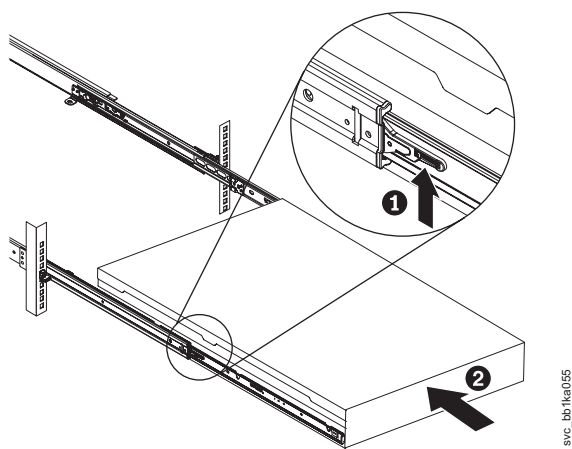

Figure 106. Raising the SAN Volume Controller 2145-CF8 or 2145-CG8 locking levers of the slide rails of the rack
12. Lift the locking levers (**1** in Figure 106) on the slide rails and push the server **2** all the way into the rack until it clicks into place.